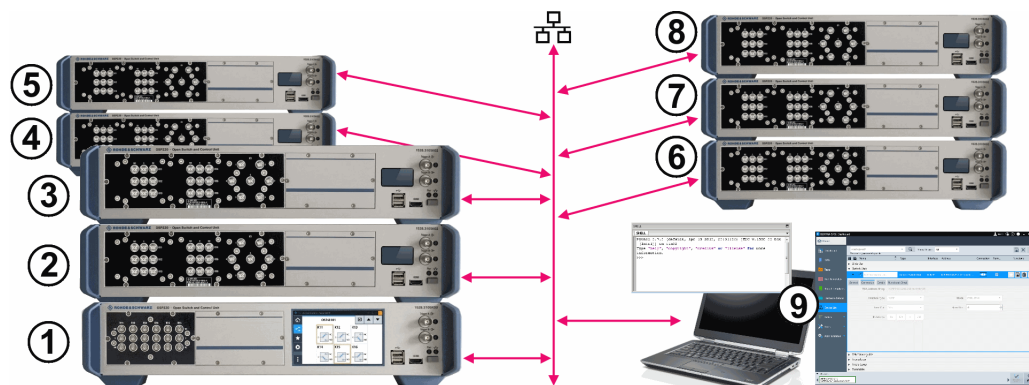

Figure 5-2: Example of a primary switch unit and 3 groups of secondary devices in a LAN setup
- Secondary devices as in Figure 5-2 are excluded from the IP fallback procedure.